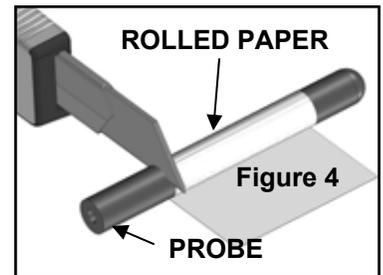

Figure 4
**STEP #6** - As in figure 4 use a sharp knife and piece of paper rolled on the probe as a guide to make as square a cut as possible. Push the probe on to the stepped barb of the actuator